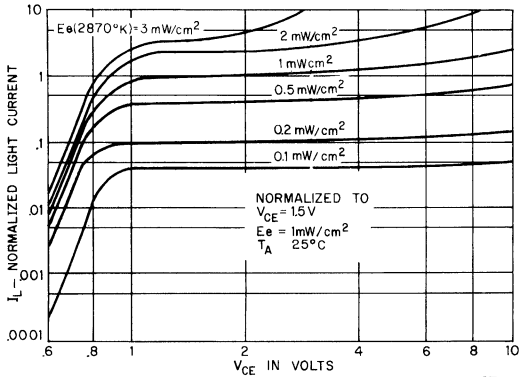
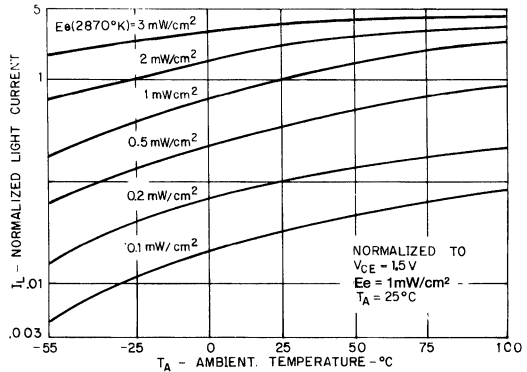

Fig. 1. Light Current vs. Collector-Emitter Voltage ST1118-11
Fig. 2. Light Current vs. Ambient Temperature ST1123-11
- Figure 1 and figure 2 use light source of tungsten lamp at 2870°K color temperature. A GaAs source of 3.0 mW/cm² is approximately equivalent to a tungsten source, at 2870°K, of 10 mW/cm².